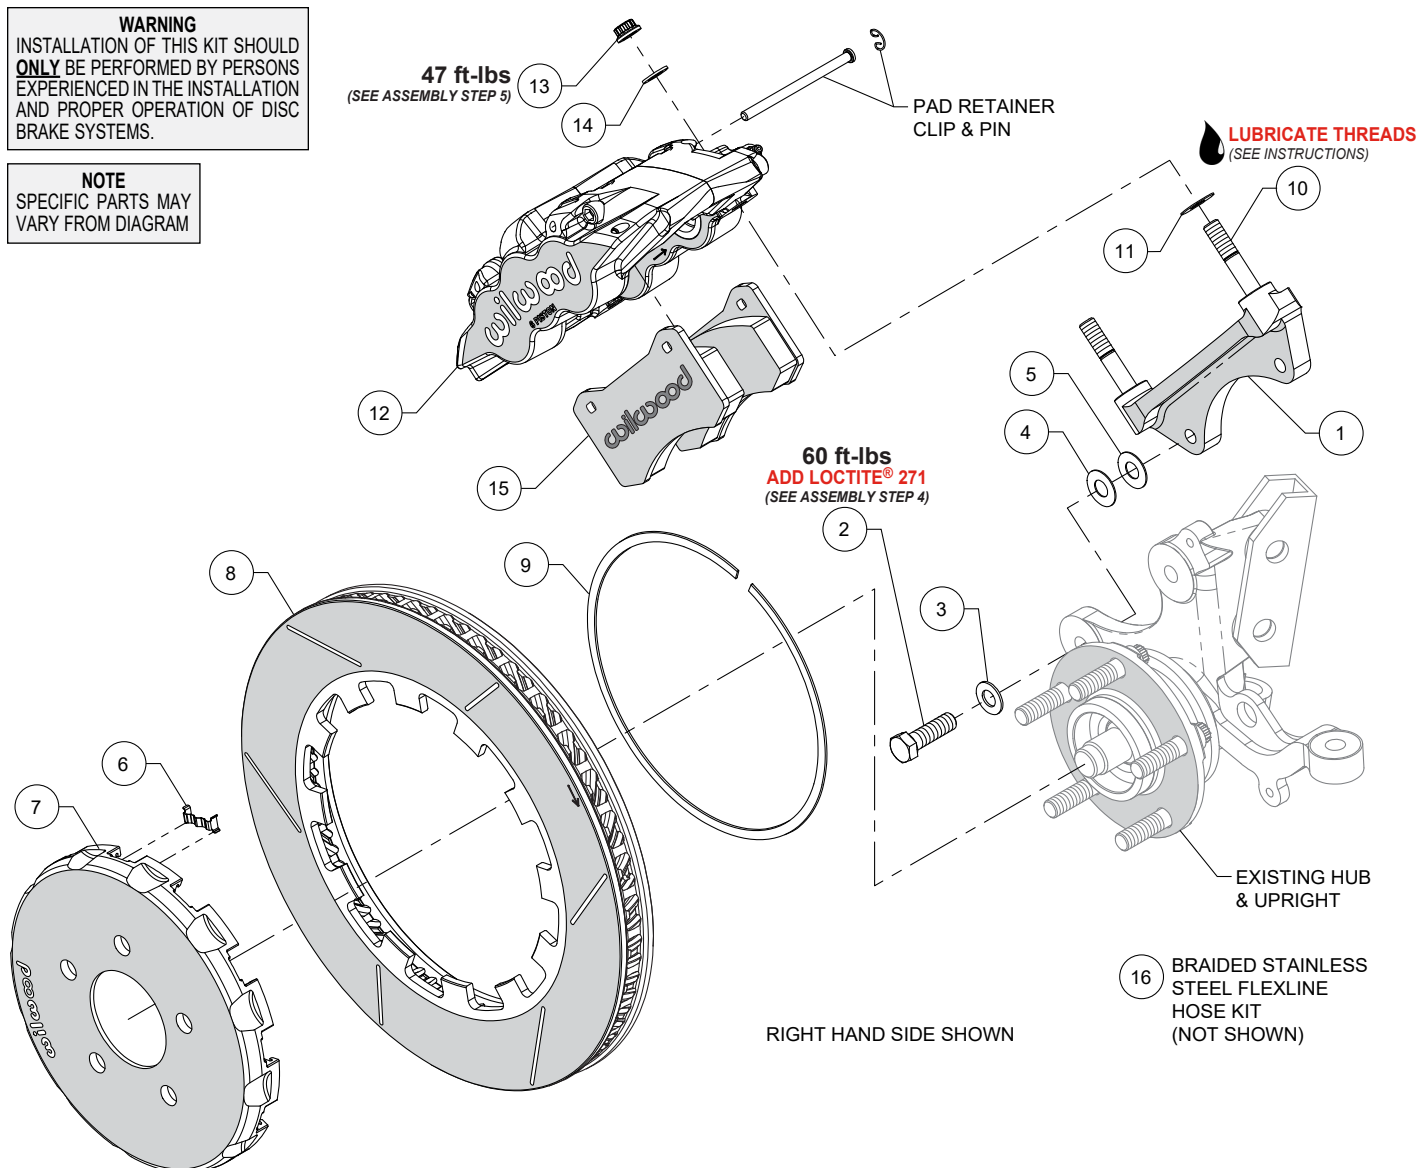

Figure 1. Typical Installation Configuration
**NOTE:** Numbers in parenthesis refer to the parts list and Figure 1 on the preceding pages.
**STEP 1** The caliper mount bracket (1) should initially be installed with clean, dry threads on the mounting bolts. Orient the bracket, as shown in Figure 1 and Photo 1, and install using bolts (2) and washers (3). Initially place one .033" thick shim (4) on each bolt between the bracket and upright, Photo 2 (arrow). Temporarily tighten the mounting bolts. **NOTE:** *The bracket must fit squarely against the mount bosses on the upright. Inspect for interference from casting irregularities, machining ridges, burrs, etc.* Later, after the caliper alignment has been checked, the mount bolts will be secured using red Loctite® 271.
**STEP 2** Insert the dynamic mount wear clips (6) into the slots in the hat (7), Photo 3. Orient the rotor (8) as shown in Figure 1 and Photo 4, with the flush side of mount lugs facing the hat. Secure the rotor to the hat using the snap ring (9) by simultaneously pushing down on the rotor and installing the ring into the groove in the hat, as shown in Photo 5. Carefully inspect snap ring to ensure complete engagement in the groove. Refer to Wilwood's data sheet DS-1485 (available at [www.wilwood.com/Pdf/DataSheets/ds1485.pdf](http://www.wilwood.com/Pdf/DataSheets/ds1485.pdf)) for complete dynamic lug drive installation instructions.
**STEP 4** **NOTE:** *This kit contains distinct right and left hand calipers that must be mounted in a specific direction, as described below.* Lubricate the caliper mounting studs (10) with lightweight oil. Initially place one .030" thick shim (11) on each stud between the caliper and the bracket, as shown in Figure 1 and Photo 7. Mount the caliper (12) onto the bracket (1) using lock nuts (13) and washers (14), Figure 1. Temporarily tighten the lock nuts. Ensure that the caliper is mounted so the largest pistons are at the rotor exit end of the caliper, in relation to the direction of the rotor. View the rotor through the top opening of the caliper.
The rotor should be centered in the caliper, Photo 8. If not, adjust by adding or subtracting shims (4 and/or 5) between the bracket and the upright. Always use the same amount of shims on each of the two mounting bolts. Once the caliper alignment is correct, remove the bracket mounting bolts (2) one at a time, apply red Loctite® 271 to the threads, and torque to value shown in Figure 1.
**STEP 5** Remove the caliper (12), then remove the two pad retaining pins from the caliper by carefully popping out the pin retaining clips and sliding out the pins, Figure 1. Insert the brake pads (15) into the caliper from the bottom, Figure 1 and Photo 9. With the friction material facing the rotor, secure the brake pads in place with the pad retaining pins and clips. Reinstall the caliper onto the caliper mounting bracket and temporarily tighten the lock nuts (13). Check that the top of the brake pad is flush with the outside diameter of the rotor, Photo 10. If not, adjust by adding or subtracting shims (11) between the caliper and the bracket. After the caliper pad height is set, torque the caliper lock nuts (13) to value shown in Figure 1.
**STEP 7** Attach supplied brake line to caliper. **NOTE:** OEM rubber brake hoses generally cannot be adapted to Wilwood calipers. Install Wilwood's stainless steel braided flexline hose kit (16), P/N 220-6458 included with this kit (not shown). The caliper inlet fitting is a 1/8-27 NPT. Use the included steel adapter fitting at the caliper (use PTFE tape on the pipe threads of adapter fitting for proper sealing to caliper). **Ensure hoses are routed to prevent contact with moving suspension, brake or wheel components.**